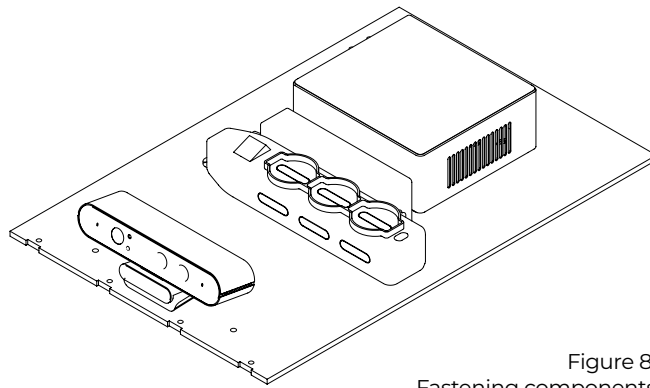

Figure 8.
- Fix the PC with the appropriate attachments compatible with the vesa mount measurements (Figure 8)
- Fix the power strip with two M3 screws at the ends (Figure 8)
- Screw the depth-color sensor on the base with an M5 screw (Figure 8)